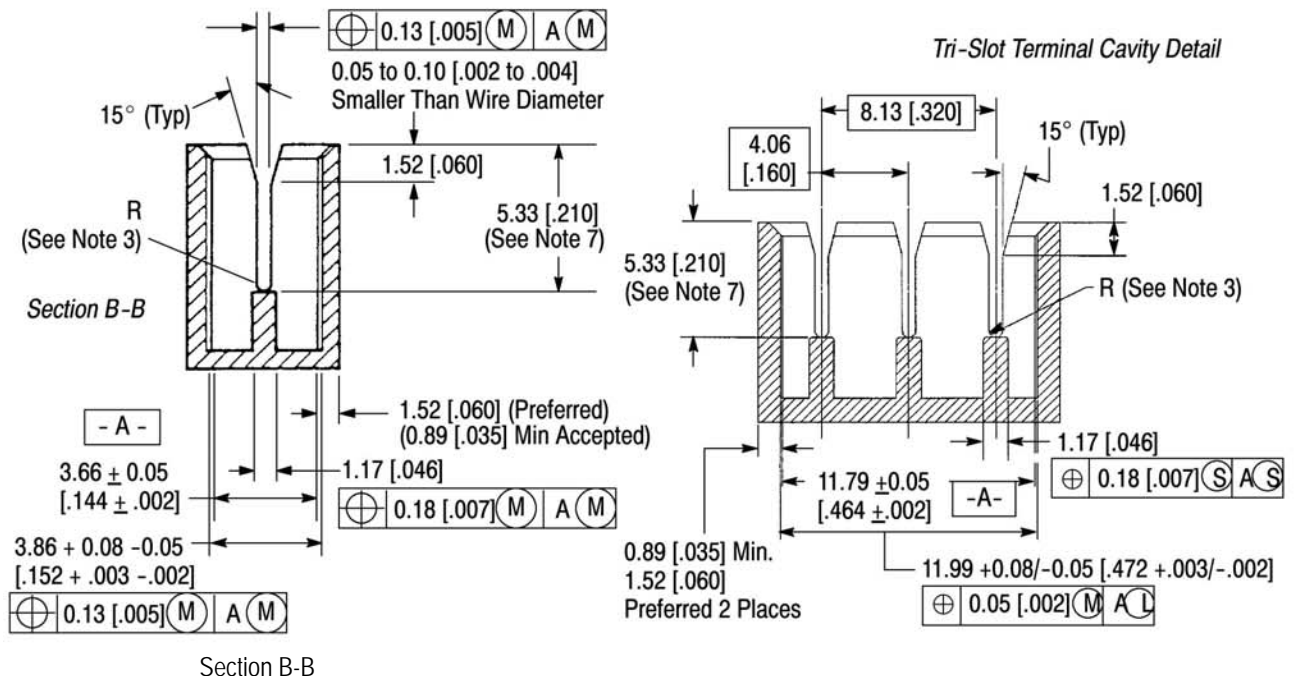
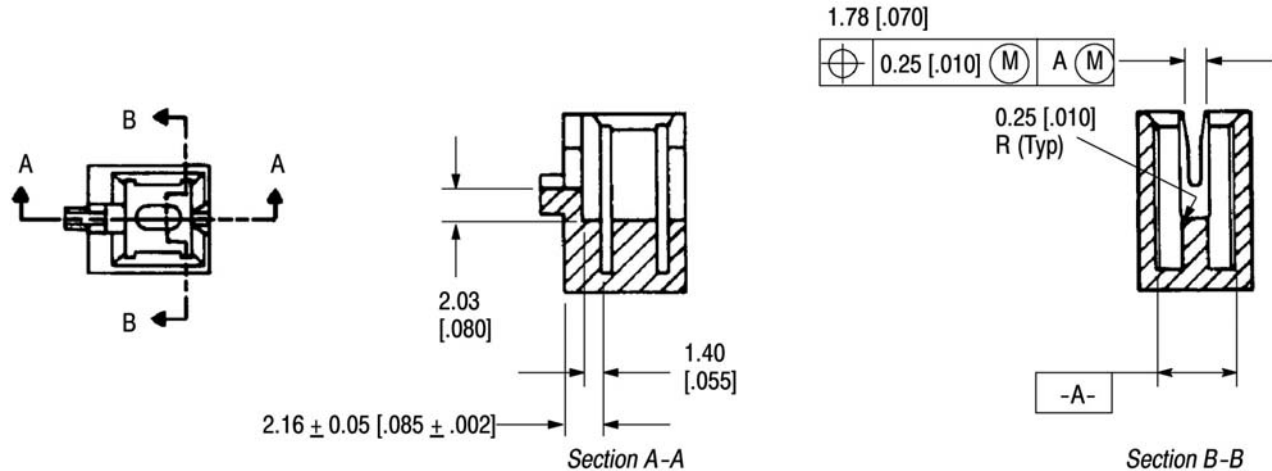
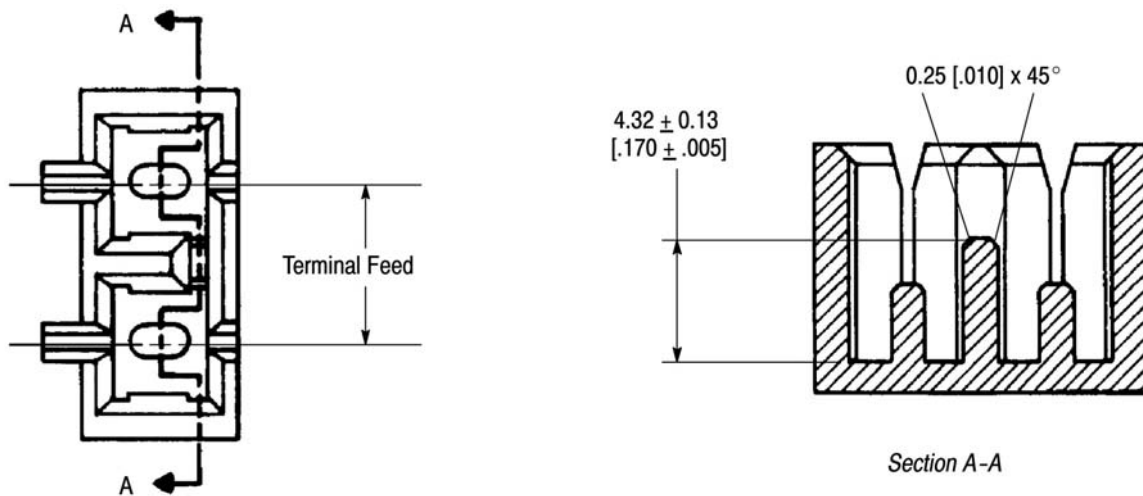
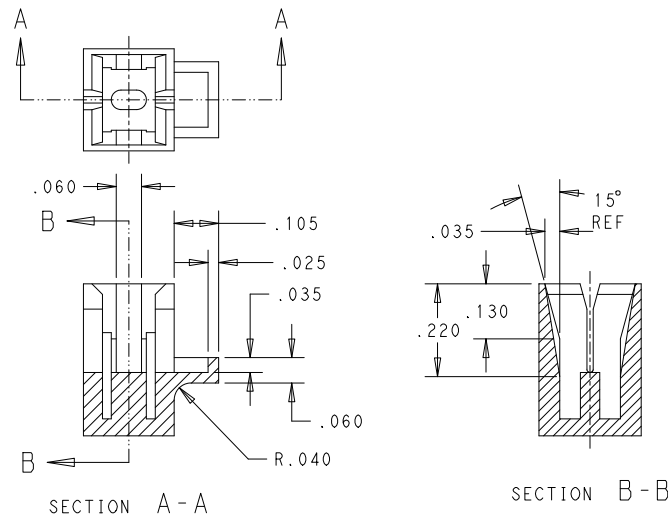

Figure 3
Figure 4
Figure 5
Figure 6
- Added new Paragraph 3.2.D and new Figure 6 and renumbered
The external design of the housing will depend on your requirements. Internal cavity designs must conform to the dimensions provided in Figures 3, 4, or 5. Pre-design consultation with TE Engineering is necessary to be sure the cavity configuration will be functional and that it will be compatible with automatic insertion machines.
The following Notes apply to the housings shown in Figure 3:
- (1) Housings must be glass-filled polyester material or approved equivalent.
- (2) The wire trim side of the housing shall have an even thickness to prevent damage to the housing when trimming excess wire.
- (3) Coil windings and other components must not extend above the wire slot or otherwise obstruct seating of the terminal or wire.
- (4) The housing must have a wire trim support if automatic machine insertion is used. It is not necessary for the housing to have a wire trim support if inserting the wire with a hand insertion tool.
- (5) The wire slot may have a controlled flash to provide retention and stability for a broad range of wire sizes.
- (6) For poke-in wire applications: depth of beam slots may be increased to conform with electrical spacing requirements, and strain relief for wire is recommended.
- (7) The given dimension is for a single wire application. The dimension may change for double wire application, in which case, see Customer Drawing of terminal.
- (8) Controlled flash may be used at wire end. See CONTROLLED FLASH detail, Figure 3.
- (9) Features that include draft must maintain the dimension and tolerance over the entire length of that feature.
This housing design has a wire support above the anvil that allows the wire to be cut before the terminal is fully seated. As the terminal is seated, it pulls the wire end down and conceals it in the pocket behind the wire support. All the dimensions given for the exposed wire end cavity in Figure 3 apply, except for those that appear in Figure 4.
Multiple cavity housings can be made with exposed or concealed wire ends and wire slots with or without controlled flash as defined by the dimensions in Figures 3 and 4. They can also be made to accommodate commoned terminals by using a shorter wall between cavities. See Figure 5.
For applications involving termination of aluminum magnet wire, it is often necessary to apply a protective gel to exposed bare wire at the IDC interface and wire trim areas. The housing option shown in Figure 6 includes enhanced lead-in to facilitate injection of gel down inside the terminal to coat the IDC interface areas. Also shown is a special wire trim tray option where the excess magnet wire can be trimmed off and still leave a tray for application and retention of gel at the exposed wire end. If there is no room for a wire trim tray, the concealed wire end option as shown in Figure 4 also provides a good solution. All the dimensions in Figure 3, Section A-A and B-B apply except for those that appear in Figure 6.